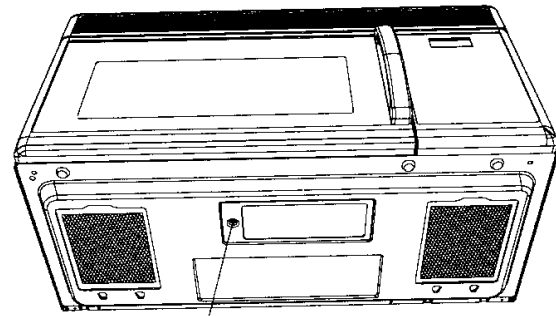

FIGURE.1 REMOVE SCREW
2. Remove screw on left side of light compartment cover and lower cover until it stops. (See Figure 1 and 2)